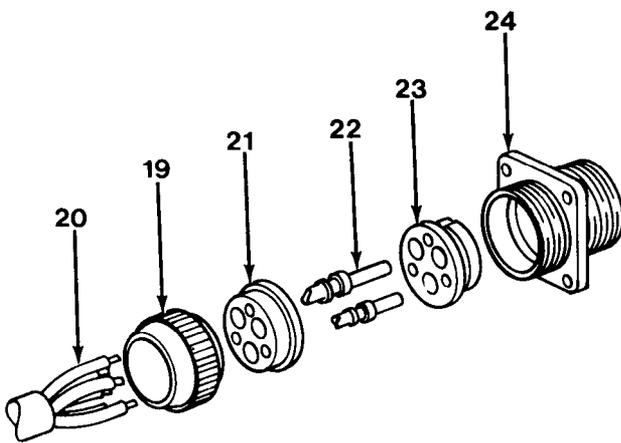

Figure 10-6
2. Unscrew nut (19, Figure 10-6) from shell assembly and slide back on cable.
3. Push grommet (21) back on cable leads (20).
4. Push pin contacts (22) out through rear of insert (23) with pin extractor.
5. Push insert (23) out through rear of shell (24).
6. Unsolder leads (20) from pin contacts (22).